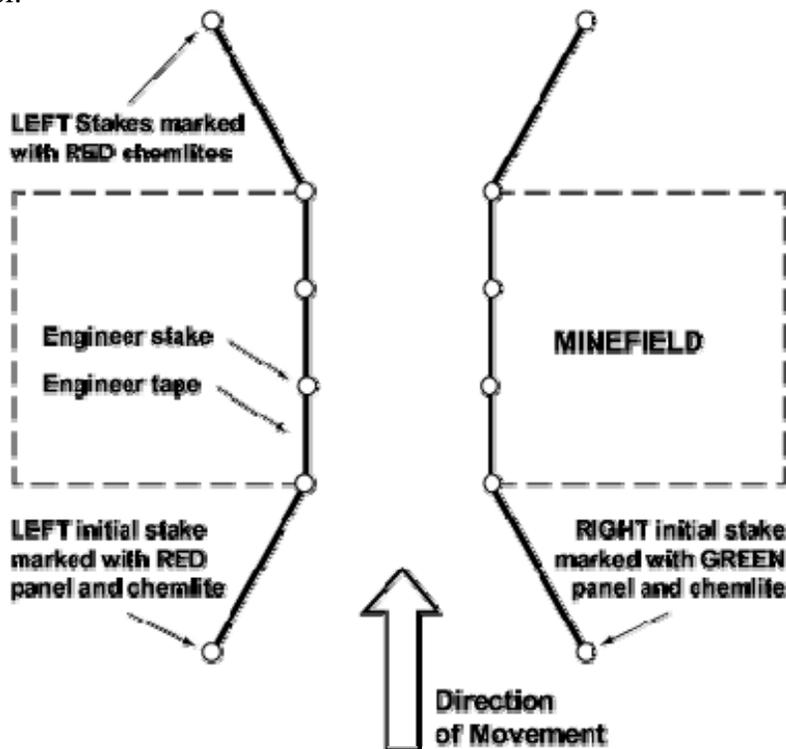

Figure 7-2. Breach Marking.
2. **In the absence of NATO markers, RED marks the LEFT side of a cleared lane.** *See Figure 7-2.* GREEN marks the RIGHT side. RIGHT and LEFT refer to the direction of movement. Priority: